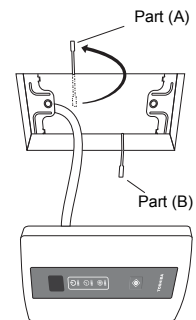

Fig. 4
3. Use bracket parts (A) and (B) to securely grip the ceiling material. (Fig. 4)